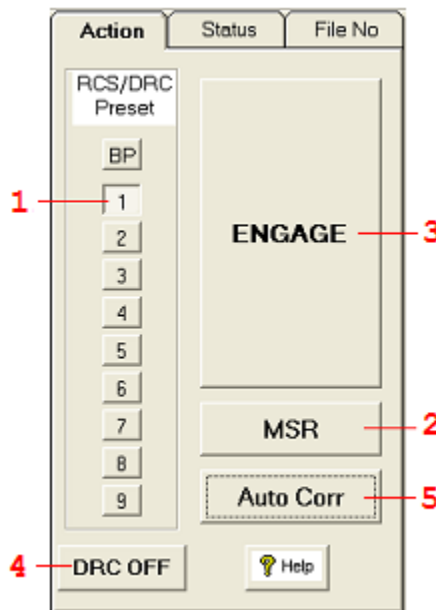
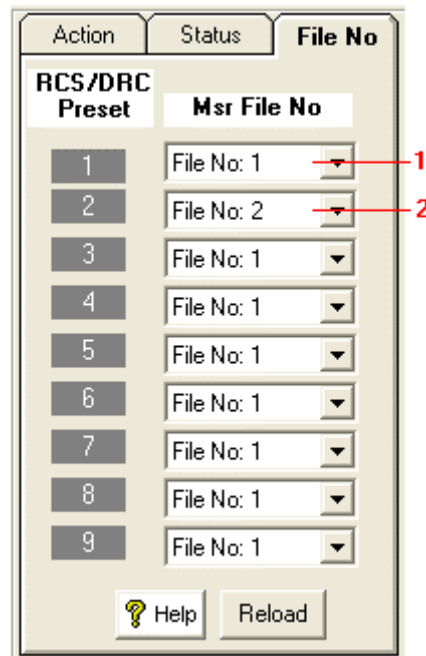

Fig. 2. Action panel.
Fig. 3. Measurement file assignment to correction presets.
Click on the RCS/DRC (2) button to enter Tact-2150 XDM correction screen. In the correction screen and on the action panel select RCS/DRC Preset 1 (Fig. 2 option 1). When this option is executed, 2150 XDM will engage correction preset 1.
In the Action panel select **File No** tab and assign measurement file 1 to preset 1 (Fig. 3 option 1).
Click on MSR button (Fig. 2. option 2) to enter the measurement screen. In this case the measurement screen is entered not to perform any measurements but rather to clear measurement file 1.
Once the target curves are loaded, click on ENGAGE button (Fig. 2. option 3) to send them to 2150 XDM. As soon as all target curves are loaded, new correction based on this set of target curves will be calculated. Make sure that dynamic room correction is enabled. Button 4 in Fig. 2 (Action panel) has to display DRC ON.
A listening test can be performed at this point to evaluate the effect of equal loudness compensation. To perform the listening test, select one of your favorite tracks and by switching DRC option (Fig. 2. option 4) ON and OFF evaluate the effect of the selected equal loudness curves.
2. Place 2150 XDM into correction preset 2 and turn DRC option OFF (Fig. 2 option 4). Make sure that measurement file 2 is assigned to preset 2 (Fig.3 option 2). Select proper target curve. Click on ENGAGE button and perform a listening test to verify that room correction algorithm performs.
3. Turn DRC option ON. Load *Equal Loudness Minus 12dB Ref.grp* target file and click on ENGAGE button (Fig. 2 option 3) to load target curves into 2150 XDM internal memory. As soon as engage operation is executed, 2150 XDM will calculate a new set of filters based on measurement data saved in the measurement file 2 and based on reference and dynamic target curves.